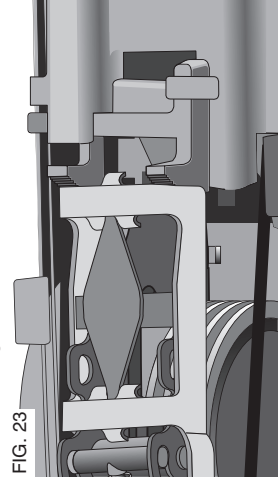

FIG. 23
6. Slide the pin (Q) through the metal structure, capturing the activation arm assembly and spring.
7. Ensure the activation arm is fully engaged as shown in Figure 23.